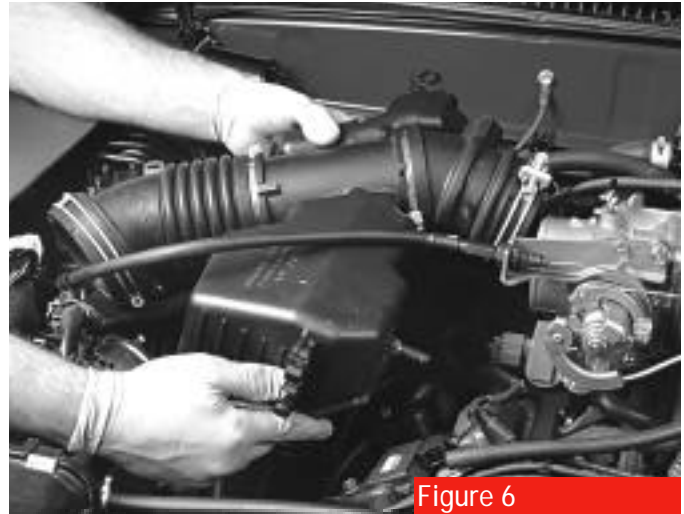

Figure 6
9. Remove any connections from the air intake tube and remove the tube (**figure 6**).